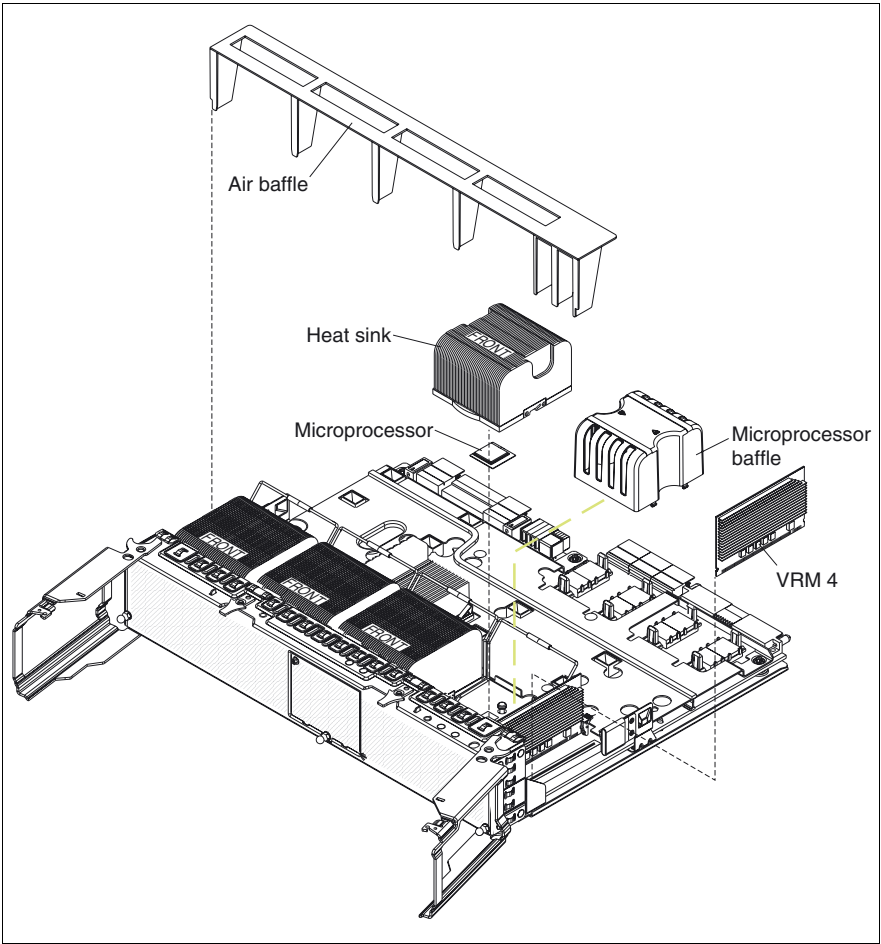

Figure 15: Removing the air baffle out of the microprocessor tray
- Lift the air baffle out of the microprocessor tray (see figure 15).